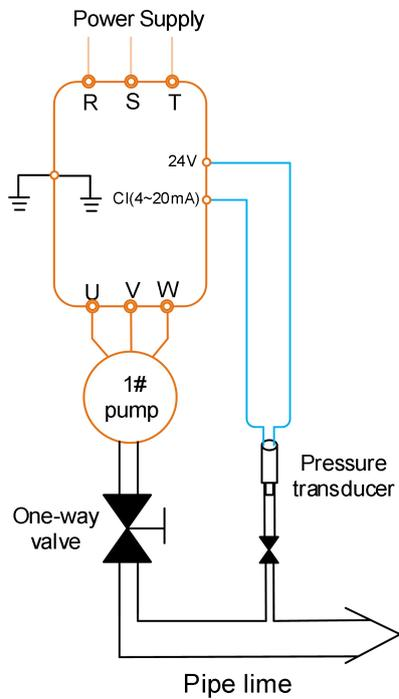
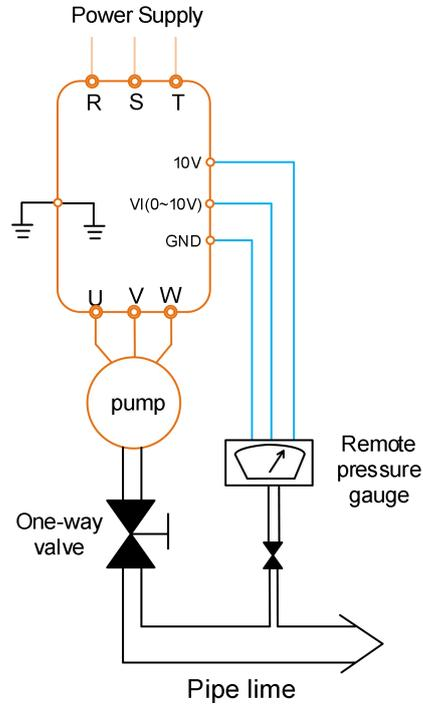

Fig 8.1 Connect with pressure transducer
Fig 8.2 Connect with remote pressure gauge
- ① Main circuit, please connect the power supply to R, S, T (Single phase please connect R, T), and output side please connect U, V, W with pump.
- ② Connect the pressure transducer or remote pressure gauge to the inverter correctly, please refer to Fig 8.1 and Fig 8.2 for details.
- ① Set F0-00=0 (Manual operation mode) firstly, start the inverter and check whether the running direction of pump is correct. If the running direction is incorrect, change the value of F0-02 or change any two motor cables connection.
- ② Under manual operation mode, discharge the air inside the pump and pipe line.
- ① Set correct value in F0-04.
- ② Under manual operation mode, start the inverter and check whether the feedback pressure and real time display pressure on the inverter are the same. Long time press [▲] or [▼] to increase or decrease pump speed to check whether the feedback pressure is changed accordingly, if the feedback changes, it means the pressures transducer's wiring connection is correct,
- ① While start the inverter at the first time or forget some parameters, please set F0-28=1 to initialize the factory default value.
- ② Set parameters one by one based on the parameters list.